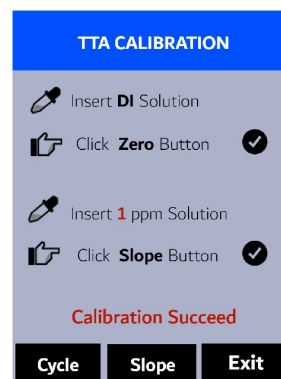

Figure 6.
9. If the calibration succeeds, a checkmark (✔), a "Calibration Success" message will appear (Figure 6). Otherwise, a warning message is displayed.